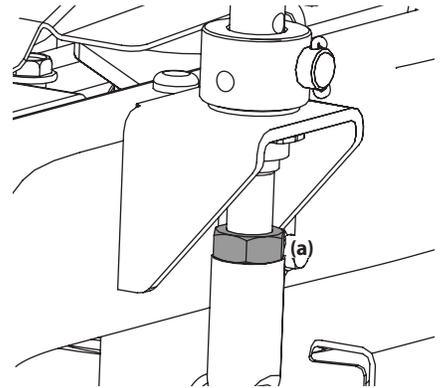

Figure 4-8
3. There are four adjustment points on the deck. Each of the deck lift adjustment pins has an adjustment bolt (a). See Figure 4-8. Raise or lower each side of the deck using the four bolts (a) until the side-to-side height is equal.
1. Raise or lower the front and/or rear of the deck using the four adjustment bolts (a) on the deck lift adjustment pins until the front of the deck is 1/4-3/8" lower than the rear of the deck. See Figure 4-8.